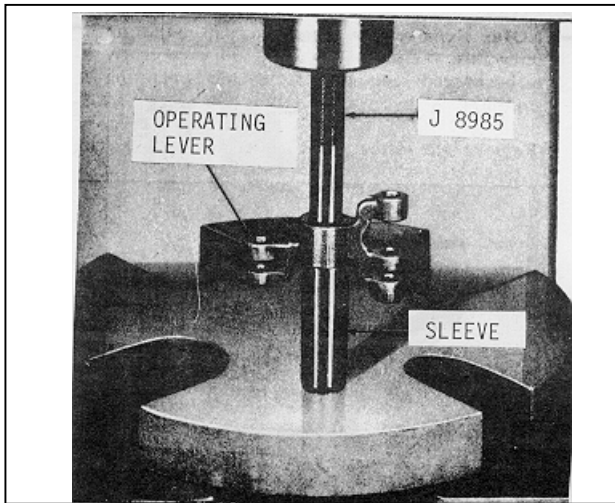

Fig. 13
- (m) If removal of the needle bearing is necessary, support the control link operating lever on a sleeve and rest the sleeve on the bed of an arbor press. Place tool J 8985 on top of the bearing and press both bearings out of the lever as shown in Fig. 13.
- (6) Remove the buffer screw from the governor housing.
- (7) Remove the external starting aid screw from the governor housing, if necessary.